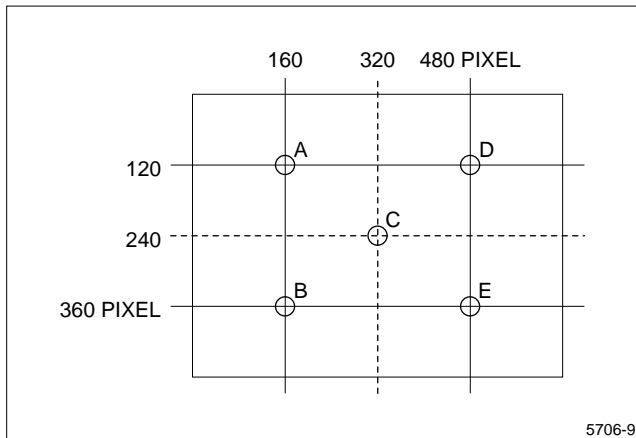

Figure 7. Definition of White Uniformity
6. White Uniformity is defined as the following with five measurements (A-E) (Refer to Figure 7):  $\frac{\text{Maximum Luminance(brightness)}}{\text{Minimum Luminance(brightness)}}$